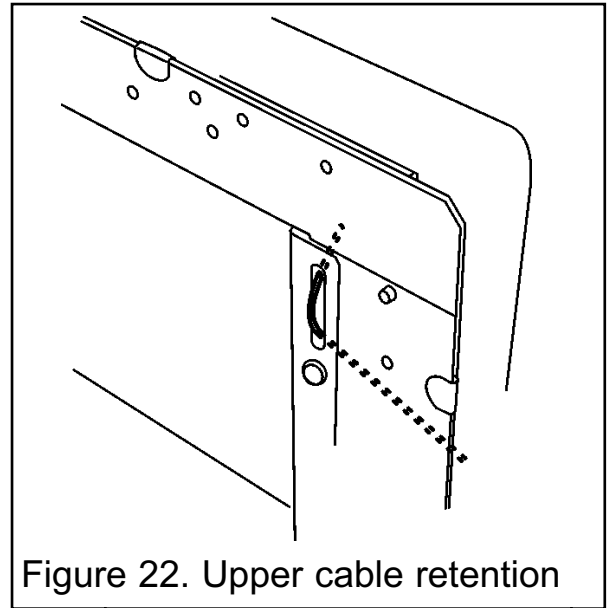

Figure 22. Upper cable retention
5. The hotbox has two holes at each side of the spillage plate. Insert one end of each cable (one cable each side) from the back through the lower of the two holes and return the end through the upper of the holes (See figure 22). Give the cables a pull so that they grip against the hotbox flanges.